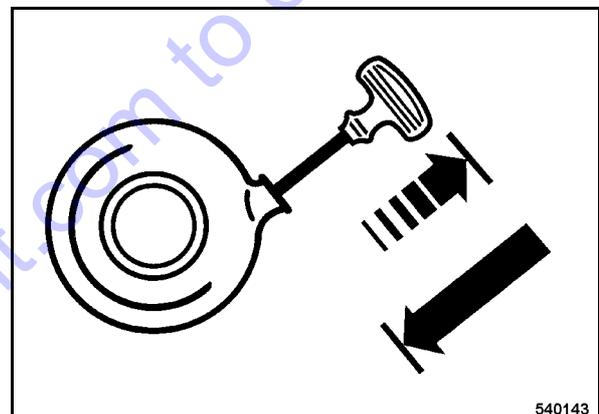

Fig. 28
- Pull the rope by the starter handle (Fig. 28) until resistance can be felt.